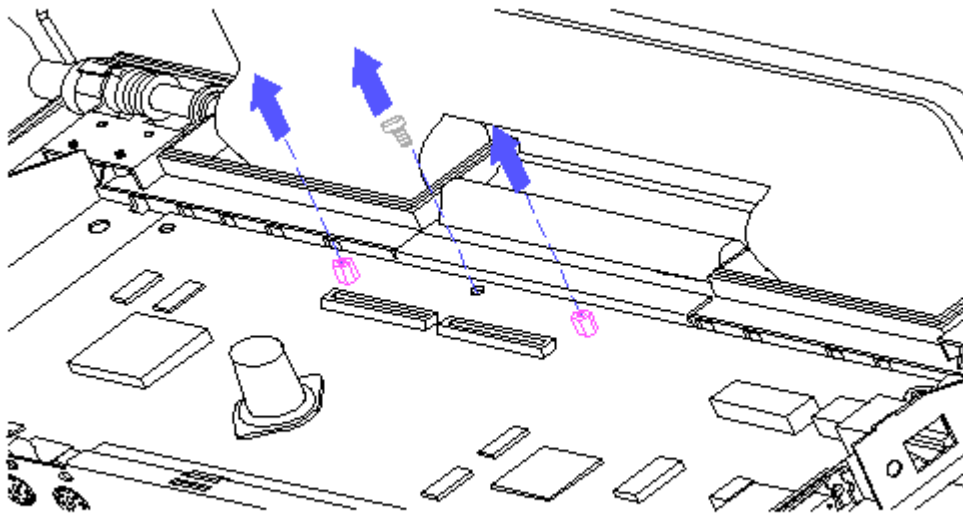

Figure 4-13. Removing the Flex Cable Screw Locks
7. Remove the screw and two screw locks that secure the board to the sheet metal pan (Figure 4-13).